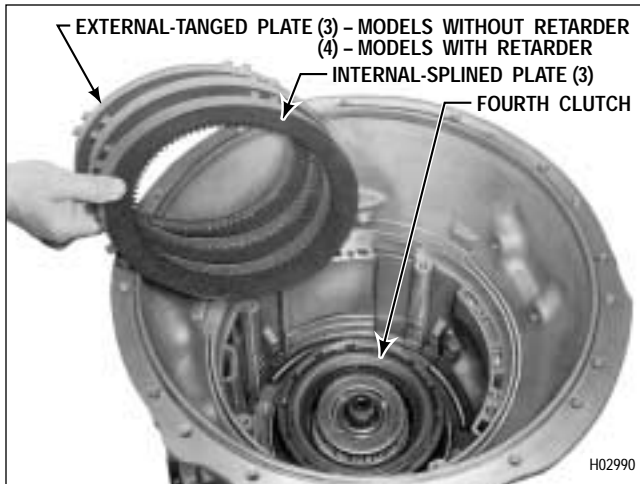

Figure 7-19. Installing Third Clutch Plates
(1) Beginning with an external-tanged clutch plate, alternately install three (models without retarder) or four (models with retarder) external-tanged and three internal-splined plates (Figure 7-19). Note the location of the three pairs of tangs and a single tang in relation to paired slots and a single slot. The plate will have minimal rotational movement when properly installed.